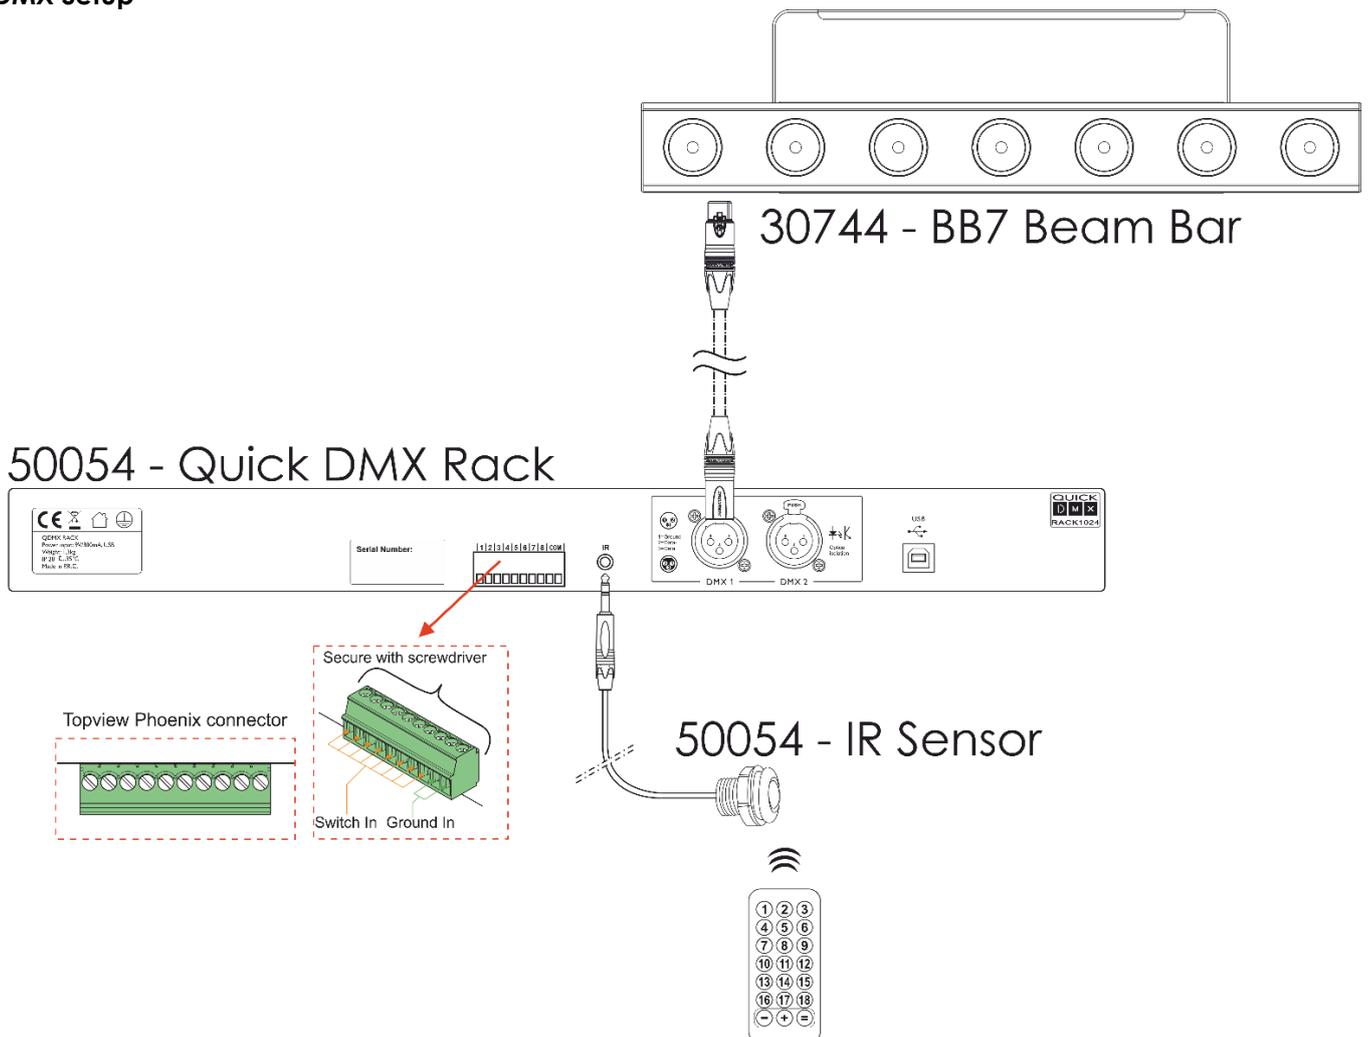

Fig. 03
- 04) Link the units as shown in fig. 03.